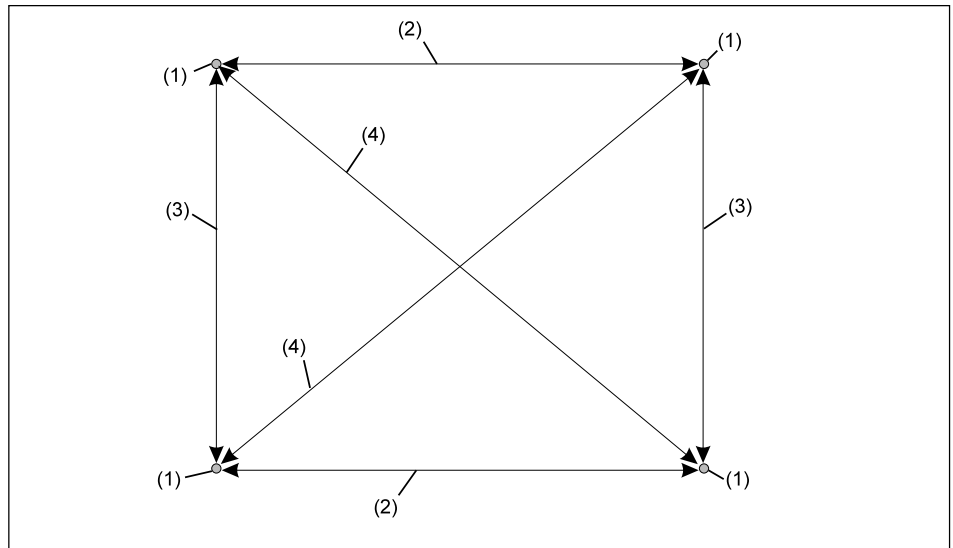

Figure 29. Place Washer on Points
- a. Place a 3/8" black flat washer on each of the threaded studs. Refer to *Figure 29*.